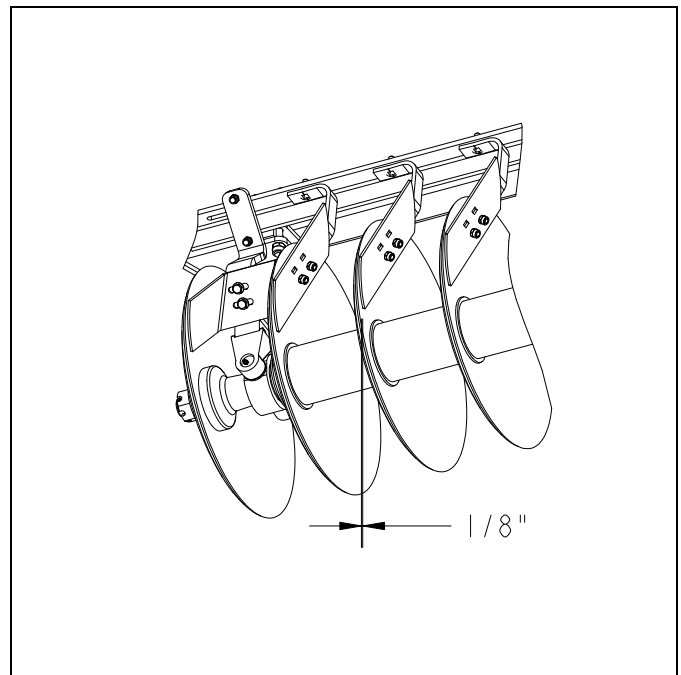

Figure 4-1: Disc Scraper Adjustment
5. Check disc scrapers for proper adjustment to the disc blade (**See Figure 4-1.**)